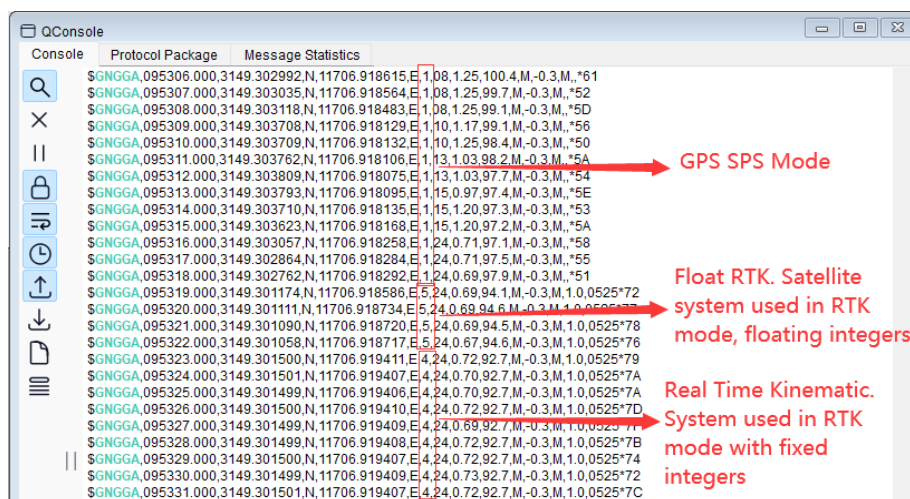

Figure 72: The Module Enters the Fixed RTK Mode
Step 7 Check whether the GNSS module receives the differential correction data. After receiving the differential correction data, check whether the value of parameter **<Quality>** in the **GGA** messages is 4 (4 corresponds to the fixed RTK mode), as shown in Figure 72: The Module Enters the Fixed RTK Mode.